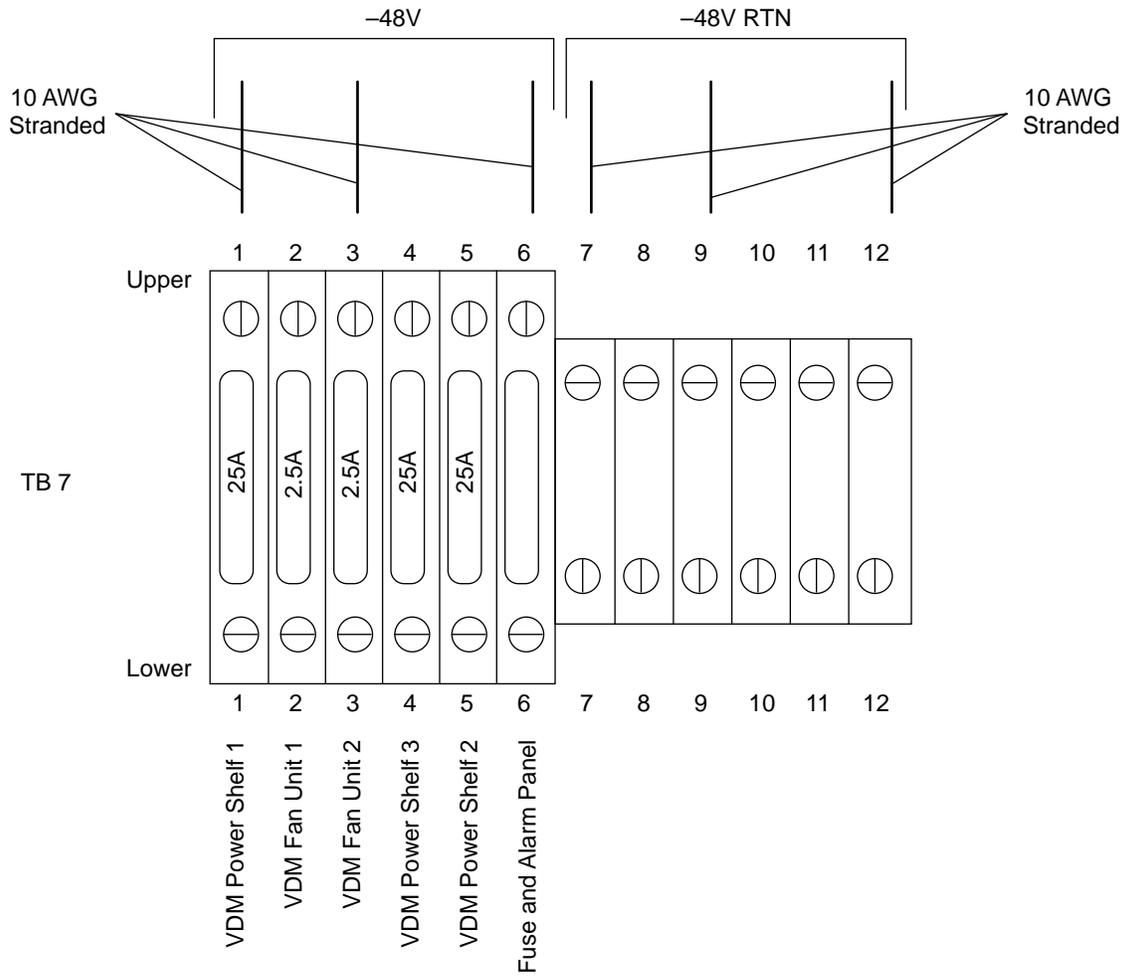

FIGURE 2-19. TB7 Connections
7. Connect the CO alarm grid wires to the appropriate terminals on TB11 (see Figure 2-19).